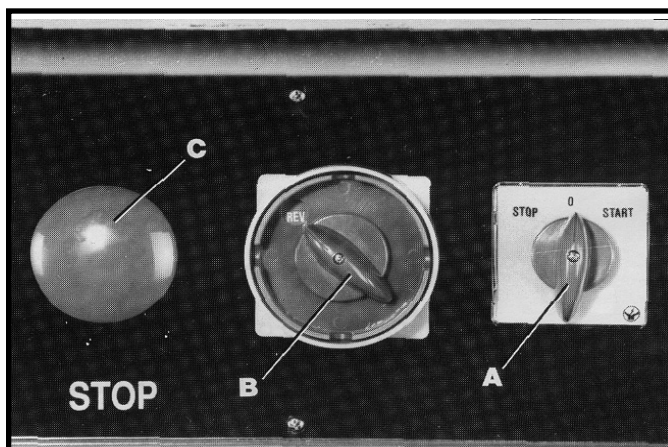
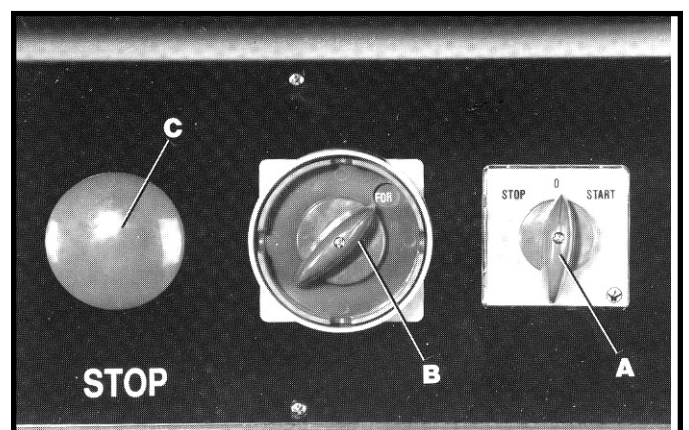

Fig. 39
Fig. 39A
An on-off switch (A) Figs. 39 and 39A, a forward/reverse switch (B) and a large mushroom shaped stop button (C) are provided with your shaper and should be used as follows to operate your machine.
2. Rotate the forward/reverse switch (B) to either the forward rotation, as shown in Fig. 39, or the reverse rotation, as shown in Fig. 39A. Turn switch knob (A) right to the "START" position. Switch (A) is a magnetic switch and as soon as the machine is started the switch will return to the center position as shown.
3. To stop the machine, push the large mushroom shaped stop button (C) Figs. 39 and 39A, or turn switch (A) left to the "STOP" position.